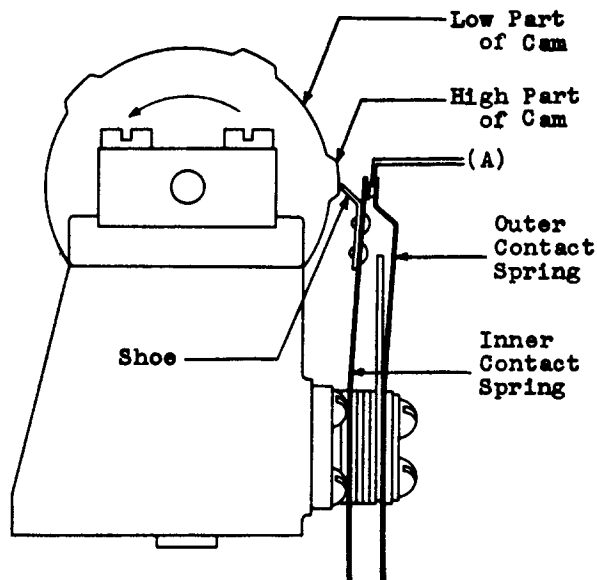

Fig. 4 - High-speed Cam Assembly
**2.10 Contact Pressure:** Fig. 4(A) — With the shoe of the inner contact spring on the *high* part of the cam, the contact pressure be-